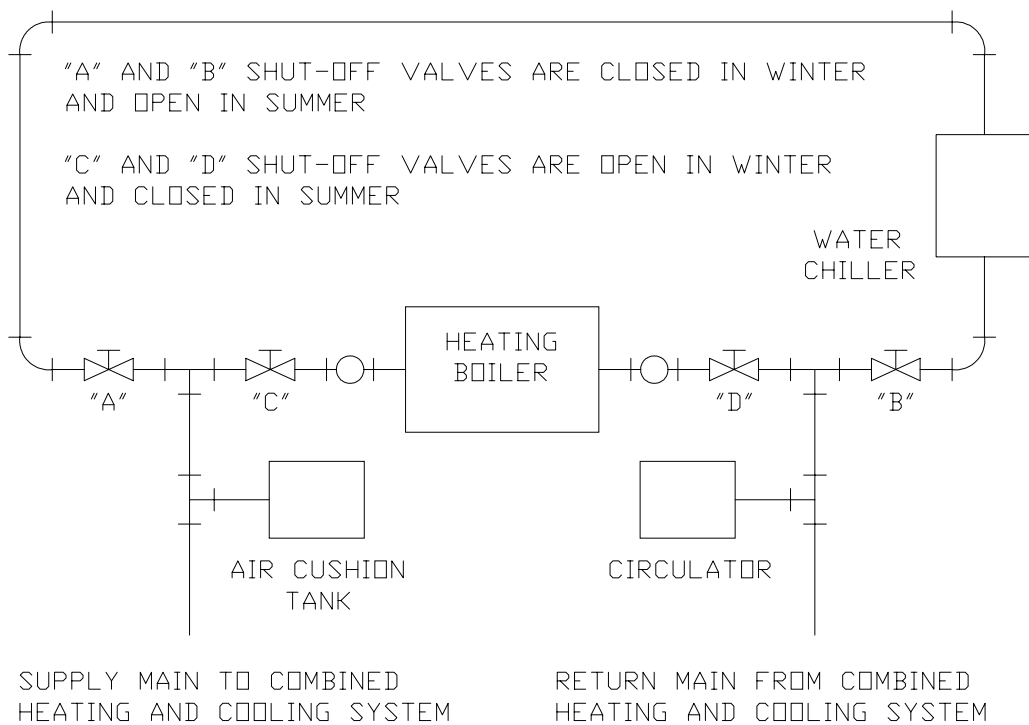

Figure 6: Recommended Piping for Combination Heating & Cooling (Refrigeration) Systems
1. If this boiler is used in connection with refrigeration systems, the boiler must be installed so that the chilled medium is piped in parallel with the heating boiler using appropriate valves to prevent the chilled medium from entering the boiler, see Figure 6. Also consult I=B=R Installation and Piping Guides.